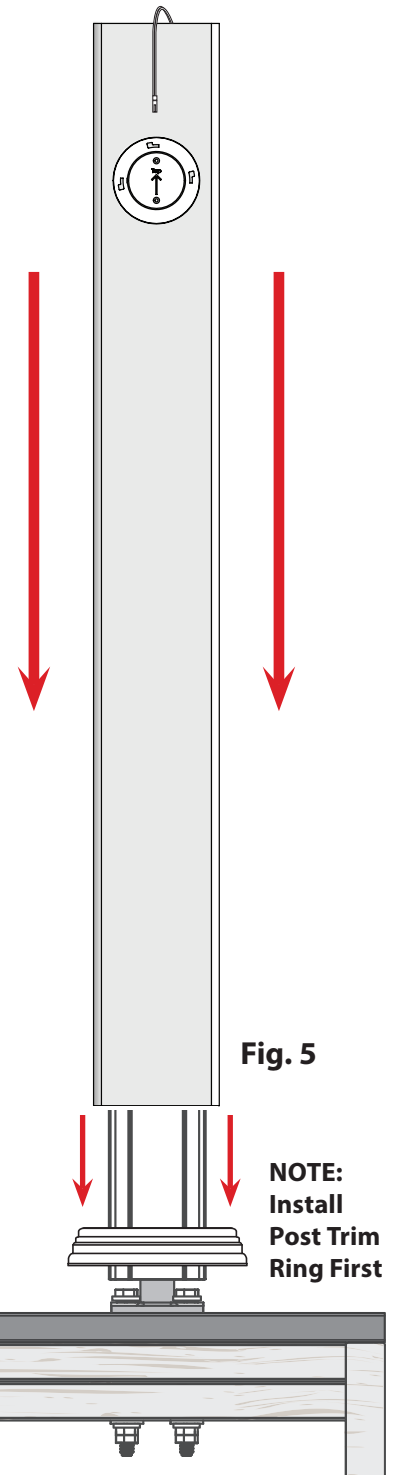

Fig. 5
7. Hold the Sconce Light loosely in position and slide the Post Sleeve over the structural post and into the Post Trim. **Fig. 5**